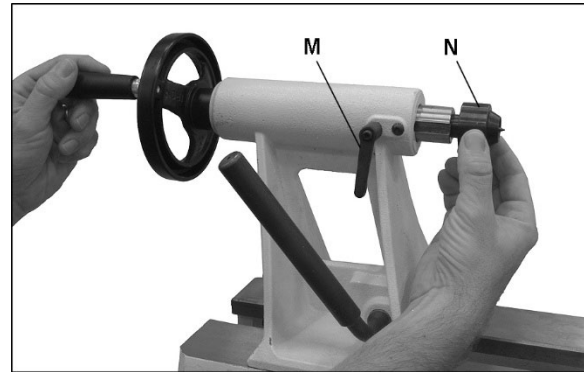

Figure 16
3. Always tighten the quill locking handle (M, Figure 16), once the live center has been properly positioned in the workpiece. Make
sure the keyway (N, Figure 16) in the quill is aligned with the locking handle.
5. Loosen quill lock handle (M, Figure 16).